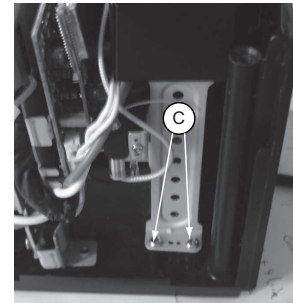

Figure 3
- 2 screws "C" as shown in figure 3